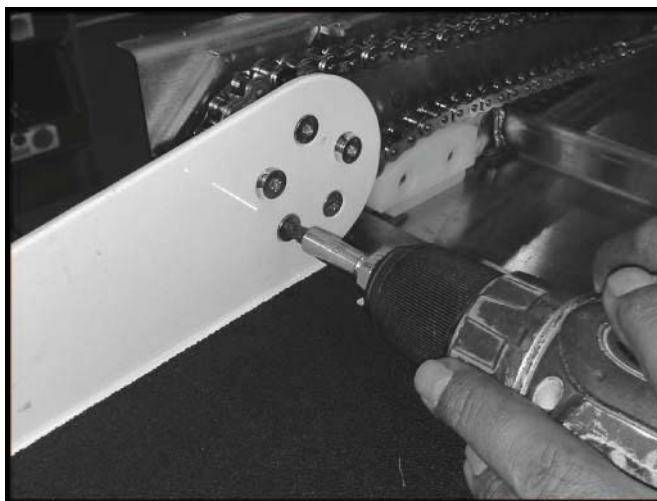

FIGURE 2-4: REMOVE RAMP TRAY
- a. Refer to **Figure 2-4**. Remove ramp tray assembly from enclosure to gain access to chain assembly.